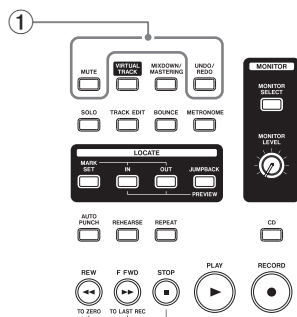

Fig 1
- Insert the update SD card into the SD card slot on the back of the unit (Fig. 1-③).
- While pressing the MUTE and UNDO/REDO buttons (Fig. 1-①), press and hold the **STANDBY/ON** button on the back of the unit (Fig. 1-②) to start the unit.